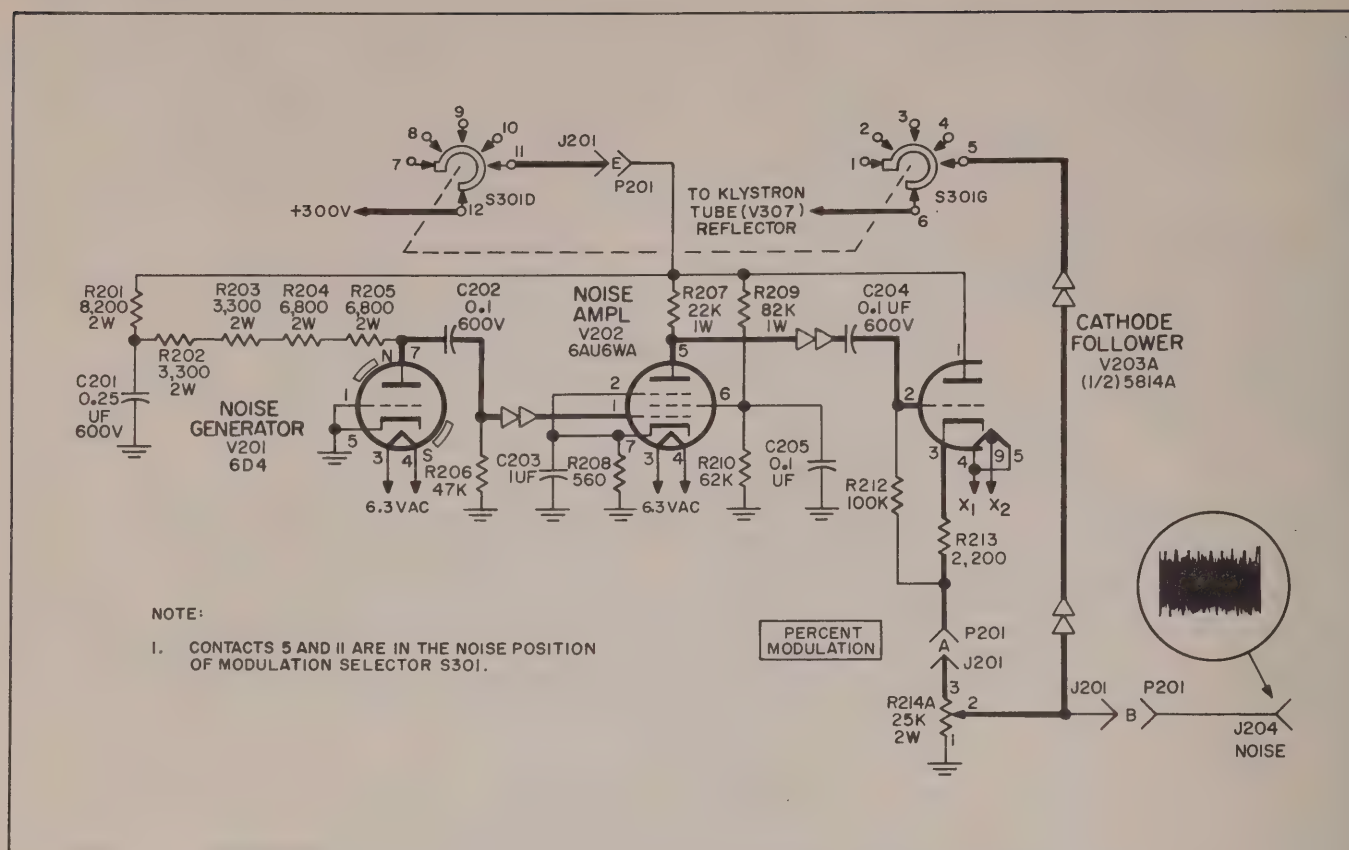

Figure 6-7. Noise Generator Circuit, Simplified Schematic Diagram
**6-16. NOISE GENERATOR CIRCUIT.** The noise generator circuit (see figure 6-7) generates a noise signal greater than 3 mc in bandwidth, and provides one stage of noise amplification. The circuit consists primarily of noise generator V201, a ring magnet mounted in a socket, noise amplifier V202, and one-half of a dual triode, V203A. The noise generator operates as follows: